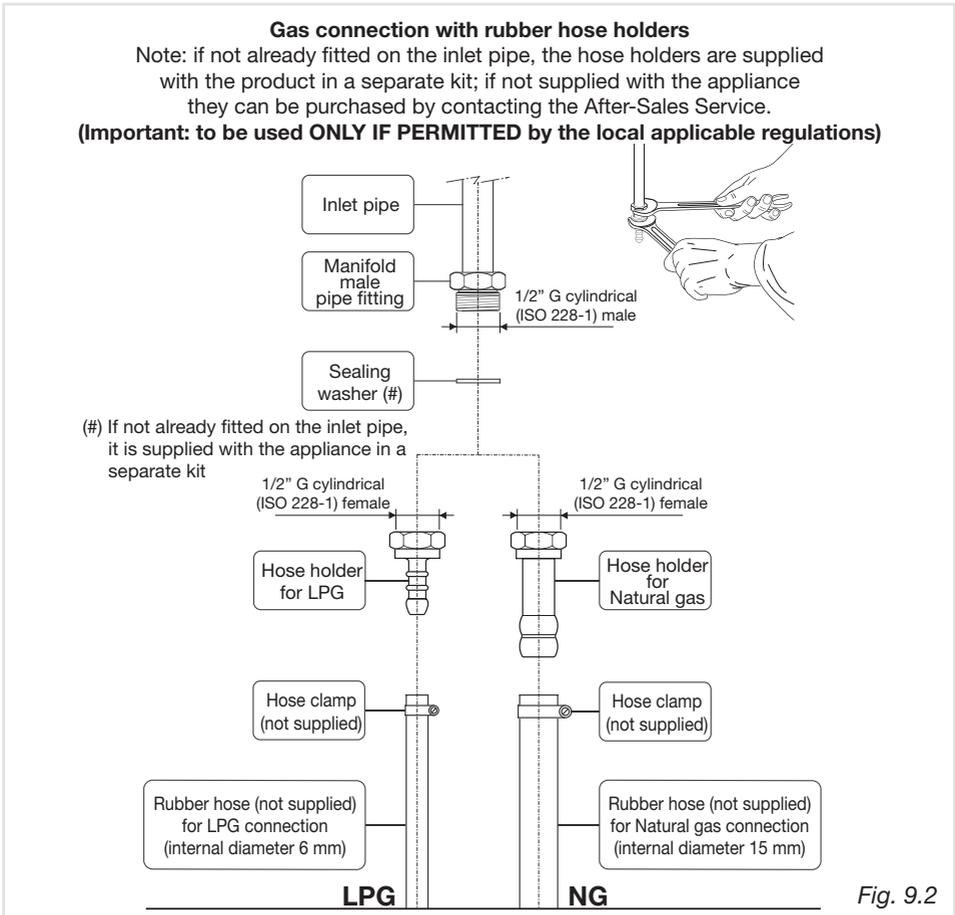

Fig. 9.2
1. If not already fitted, fit the Natural gas hose holder on the inlet pipe, making sure that you place the sealing washer between them (as shown in fig. 9.2).
1. If not already fitted, fit the LPG hose holder on the inlet pipe, making sure that you place the sealing washer between them (as shown in fig. 9.2).
- use two spanners when fitting the hose holder (fig. 9.2).